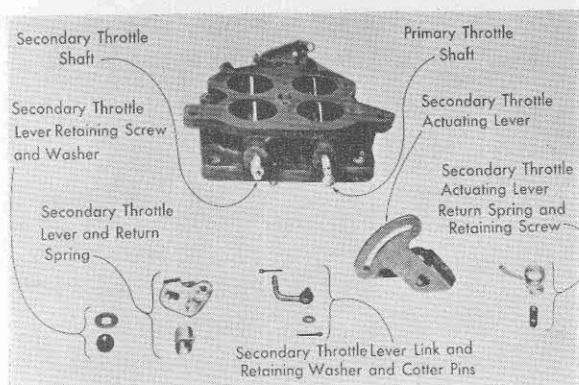

Figure 7-16
**NOTE:** Refer to Figure 7-16 for steps 1 through 7.